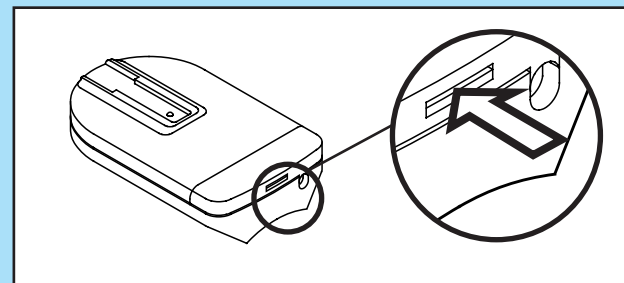

Fig. 10-1
1. Turn remote control upside down (Fig. 10-1)
- Gently push straight IN on tab as shown (Fig. 10-1).